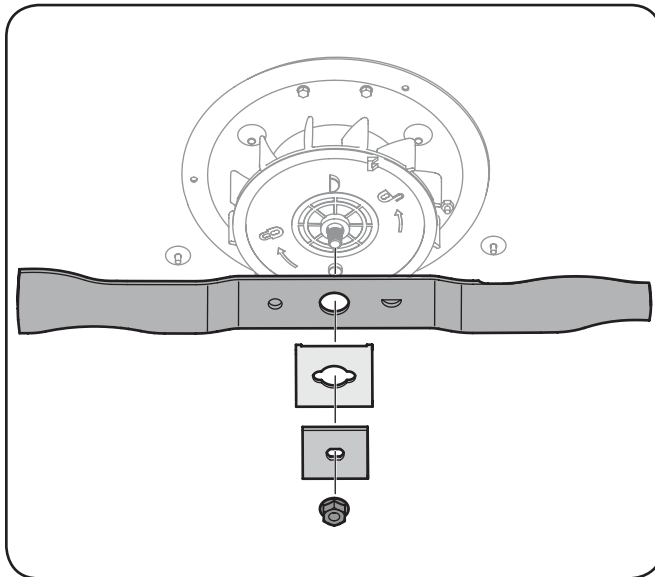

Figure 7-1
3. Loosen and remove the blade bolt, locking plates, and blade. See Fig. 7-1.
1. Place the cutting blade, locking plates, and blade bolt on the motor shaft and thread the blade bolt in finger tight. See Fig. 7-1.